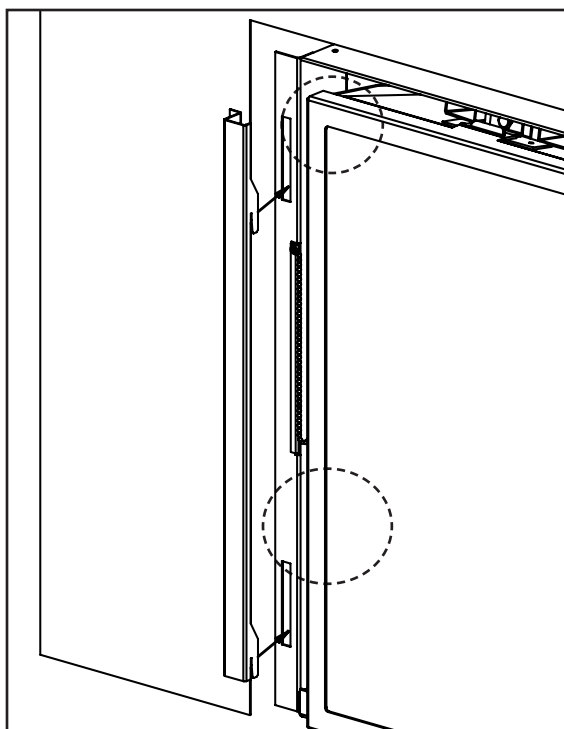

Figure 48: Panel Slot and Hook Locations
2. Install the Trimmable Panel by securing the four hooks onto the corresponding slots that are on the front of the E44I unit (See Figures 48 and 49)
The underside of the logs are contoured to make alignment easier. Using the pictures provided, carefully set the logs in place (see Figures 48 through 56).